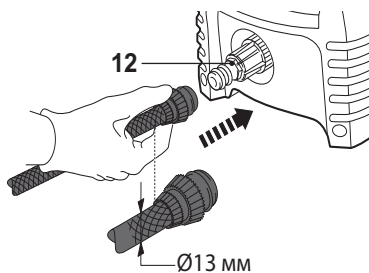

Fig. 13
- > Attach a suitable water hose (not included) to the water supply and then the other end to the water hose connector (12) (Fig. 13).